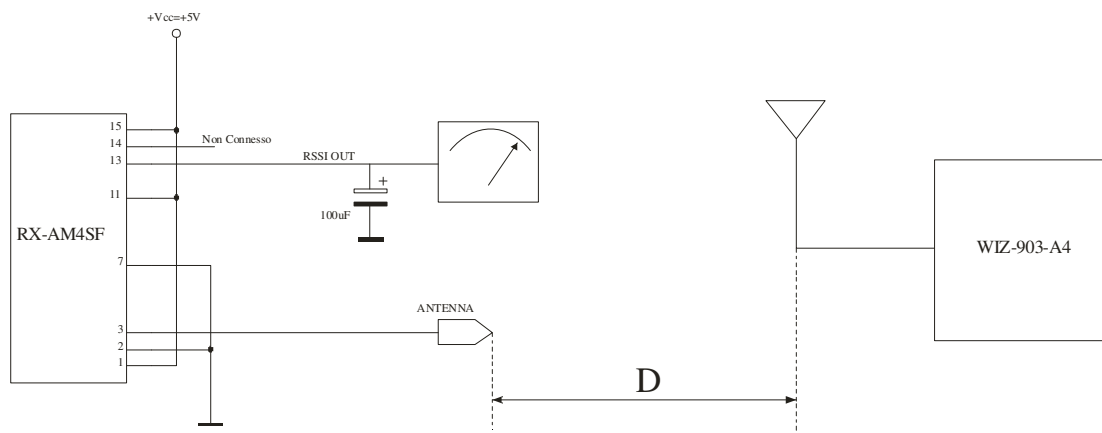

Fig. 20
Therefore the schematic is illustrated in fig.20, where TEST_RX and WIZ-903-A4 have to be placed distant (D) as much as the deviation of RSSI output is linear. To achieve this goal is preferable to avoid mounting antenna on the receiver. It is better to turn on the receiver and measure the value of voltage keeping turned off the Board (by using RX-AM4SF this value is within 1 and 1.2V). Then you can turn on the Board and check that the voltage shifting is not so big to saturate the voltmeter scale (less than 2.4V for RX-AM4SF). If this measure is too high you need to move away the two devices.